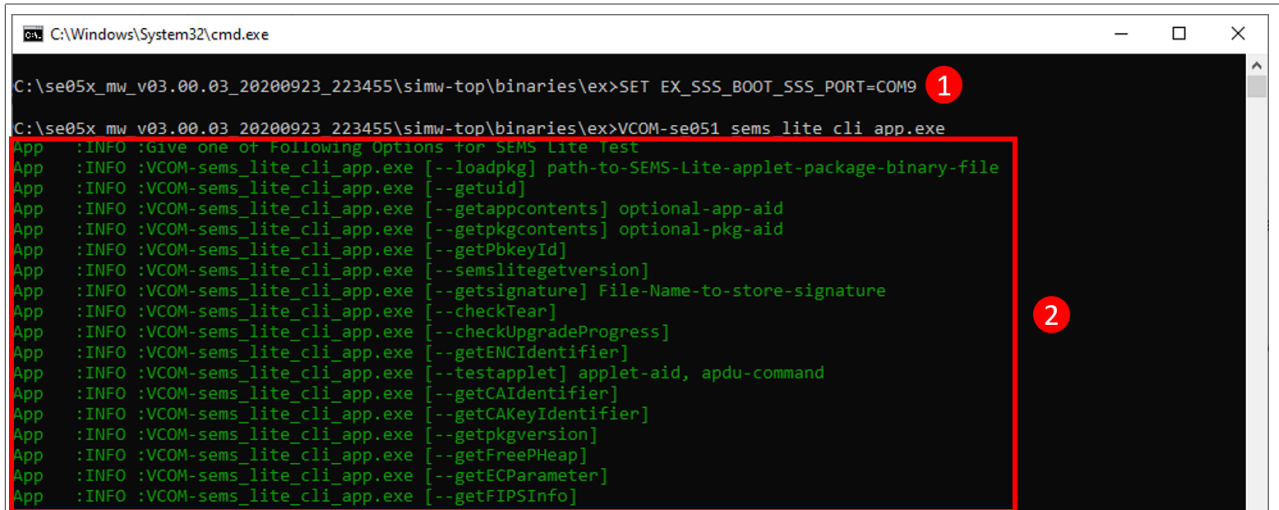

Figure 43. Use the SEMS Lite CLI tool
- 1. To use the SEMS Lite CLI, open a console window, navigate to the folder where the pre-compiled executable is located (`<MW_installation_path>/simw-top/binaries/PCWindows`) and send the commands shown in Figure 43: